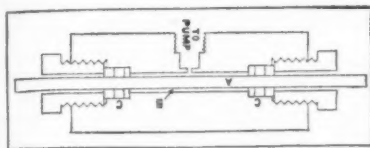

FIGURE 5
THE early work was not without a certain amount of danger, explosions continually occurring, and pieces of steel flying about with velocities sometimes high enough to penetrate six inches of hard pine planking. These dangerous ruptures were finally found to be all of the same type, and to involve a possibility not previously recognized. This type of rupture was afterward studied for its own sake; in Figure 5 this sort of rupture is illustrated. The rod (A) passes completely through a high-pressure cylinder, coming out through stuffing boxes (C), and within the cylinder its external curved surface is exposed to hydrostatic pressure exerted by a liquid in the annular space (B). When the pressure in the liquid rises high enough, the rod parts in the center just as if it had been pulled apart by a tensile load, and the two parts of the rod are expelled through the stuffing boxes with much violence.